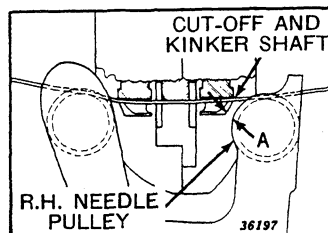
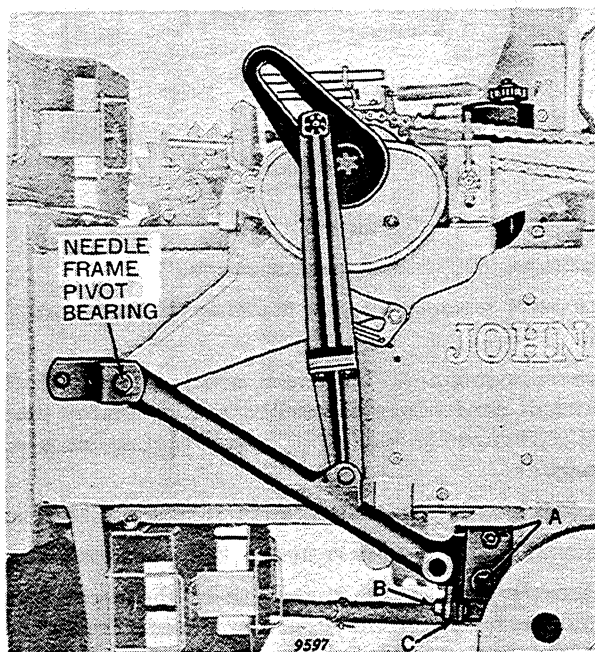

Figure 37
Figure 38
(Needle frame can be shifted slightly to the front or rear by washer adjustment at needle frame pivot bearing on the bale case, Figure 38.)
The right-hand needle pulleys on top of both needles should be set at a distance of not less than 1/8-inch from the cut-off and kinker shaft, "A," Figure 37. The pulleys in the needles should also be lined up with the wire slots in the twister box. The needle head can be twisted slightly to the front or rear by using half-shims between the needles and the needle frames at "A," Figure 38. Check needle adjustment and bottom needle guide, page 35, after making this adjustment.
1. Loosen the nuts on bolts "A" at lower end of needles, Figure 38.
3. Add or remove shims at "C" to move needles to right or left to obtain 1/8-inch distance between needle rollers at top of needles and cutoff and kinker shafts, Figure 37. In some cases it may be necessary to vary this adjustment in order to get good knots on both the right- and left-hand sides of the twister box.